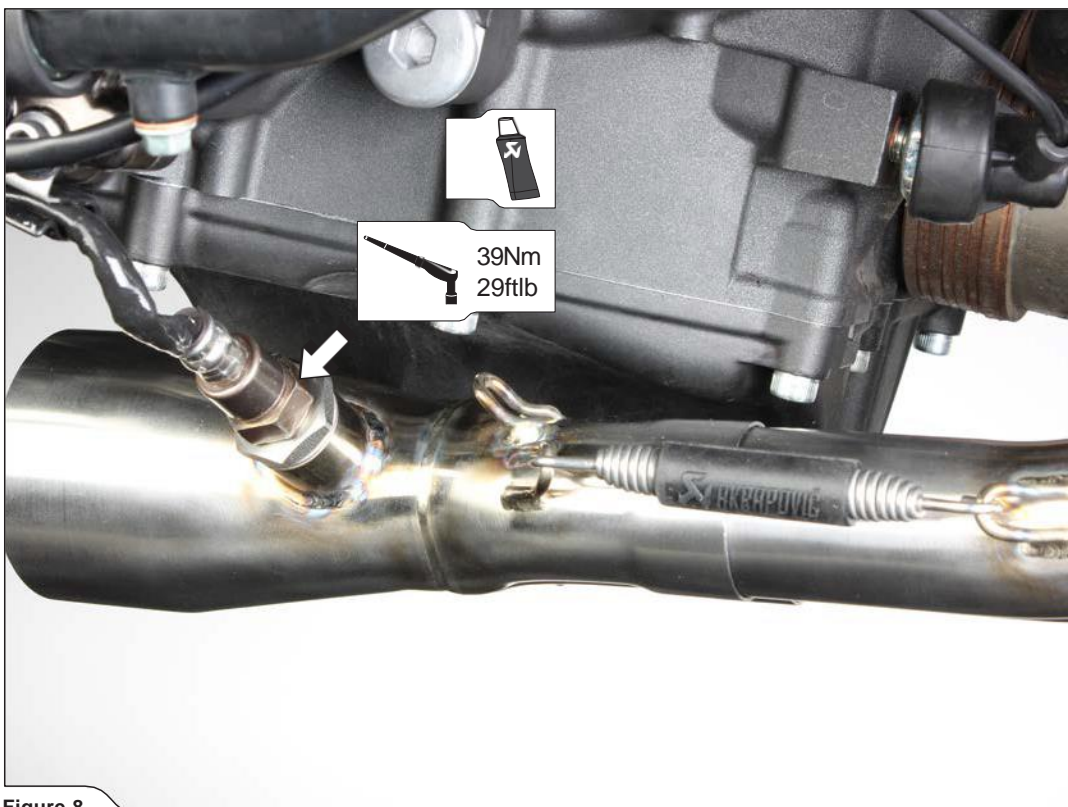

Figure 8
- ! **IMPORTANT:** make sure not to damage the lambda sensor's electrical lead during this process (Figure 8)!